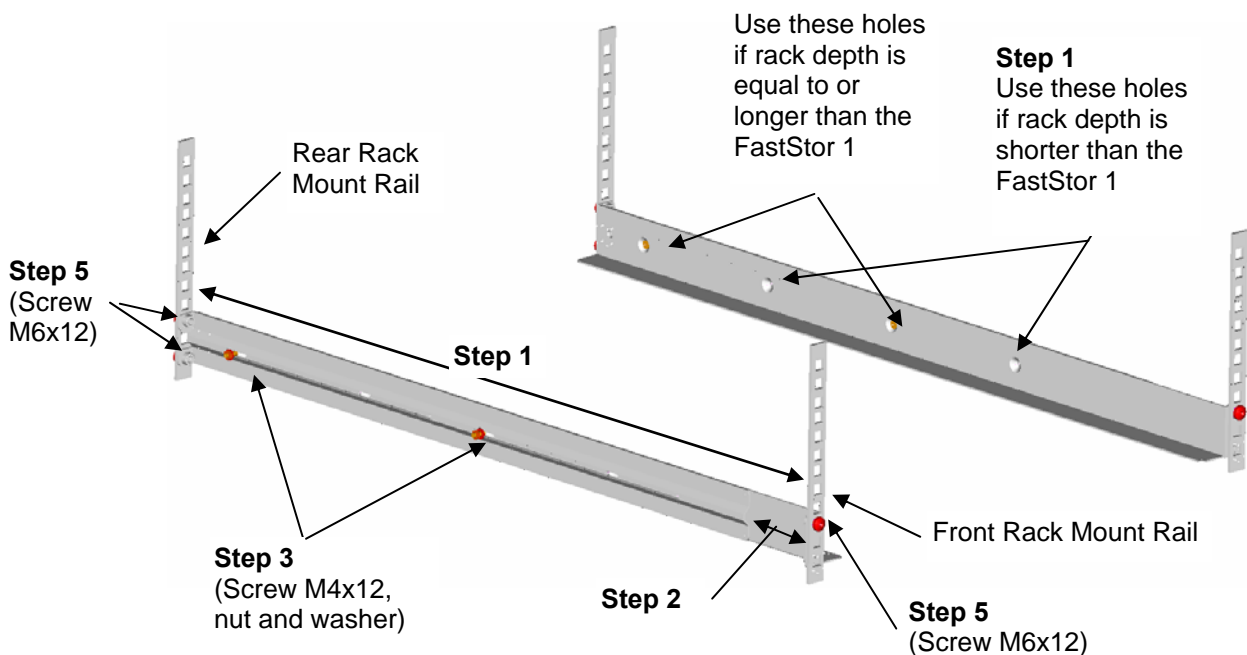

Figure 4. Mounting the Rack mounting kit to a rack
1. Measure the length between the rear rack mount rails and the front rack mount rails. If the measurement is shorter than the FastStor 1, move the two sets of screws M4x12, washers and nuts shown in Figure 4.